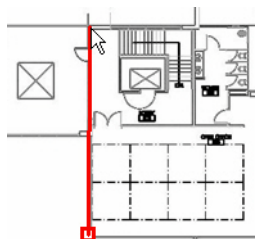

Figure 10-8: Red Boundary Line
- 2) Click a corner adjacent to the first. A red line will appear between the first point and the second. See Figure 10-8.